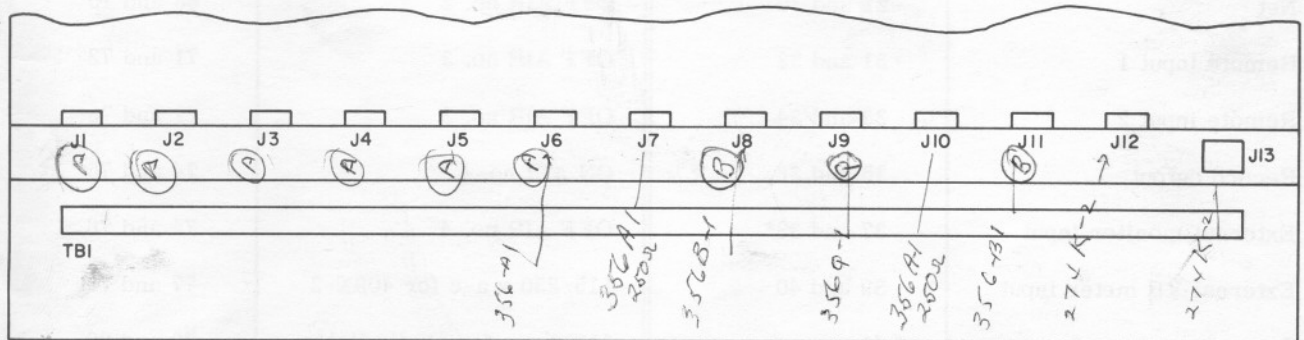

Figure 2-2. Broadcast Console 212G-1, Amplifier Connector Location
c. After Broadcast Console 212G-1 is mounted, the modules may be plugged into their receptacles according to the following steps. Refer to figure 2-2 for layout of unit connectors.